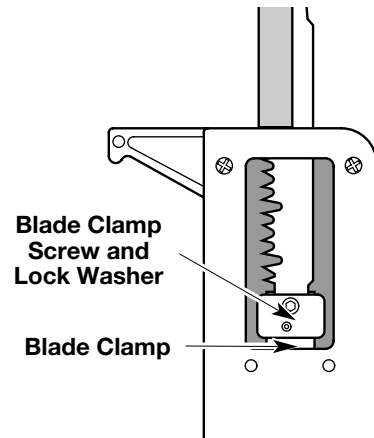

Fig. 15
- every one (1) hour (accumulative) of actual cutting time.
2. Remove the blade clamp screw, lock washer and blade clamp (Fig. 15).